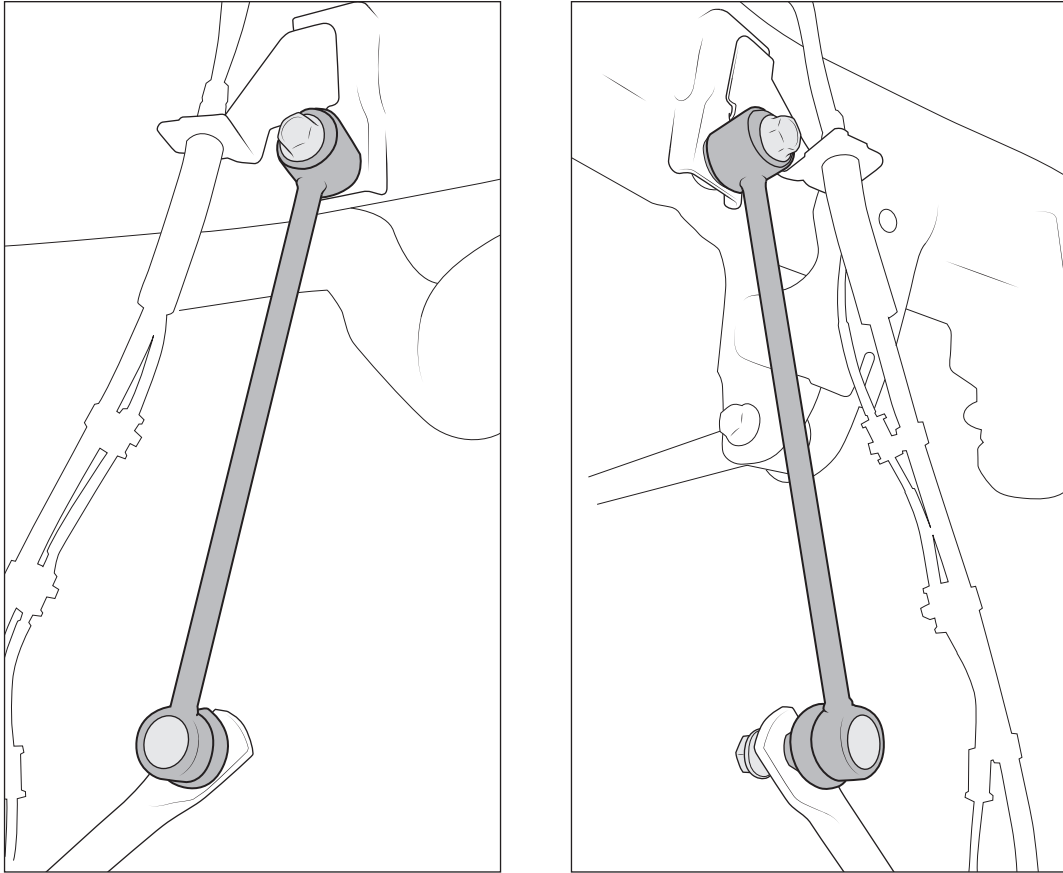

Figure 9
12. Install new AEV endlinks in factory orientation. Use provided M12x60mm FINE THREAD bolts and flat washers at upper frame attachment and M12 COARSE THREAD flange nuts at lower sway bar studs (fig. 9). Torque top endlink bolt to 55 lb-ft and lower nut on stud to 37 lb-ft. Reattach ABS lines (step 5), and install wheels using factory hardware.